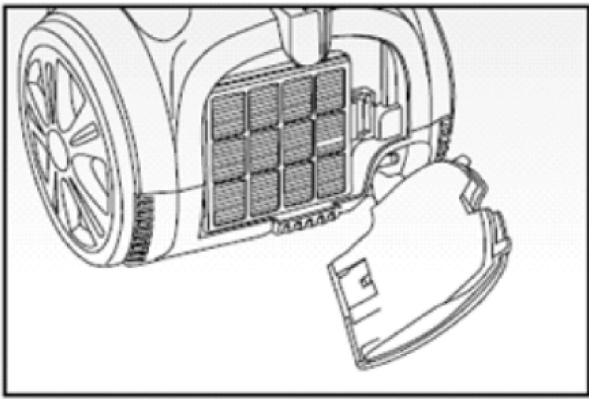

Fig. 12
- Use the lever to remove the small hatch on the back of the appliance (Fig. 12).